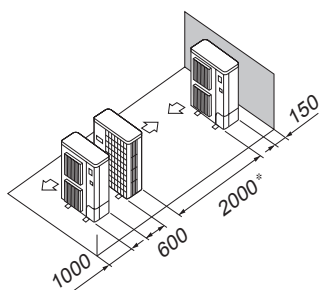

Fig. 3-16
- Single parallel unit arrangement (Fig. 3-16)